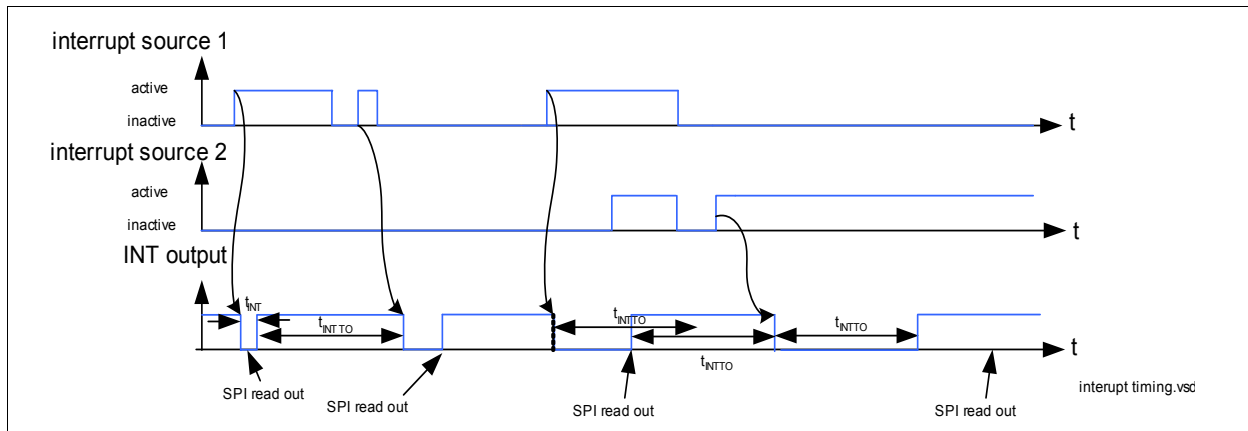

Figure 30 Interrupt Timing
Figure 30 illustrates the interrupt timing. The INT output is set LOW as soon as an interrupt condition occurs. The INT pin is released after a SPI interrupt buffer read out command, that is performed with a Read Only command (111) to register (000). In case consecutive interrupt sources are indicated before the SPI read out, only one INT LOW will be raised but the SPI read out will indicate the interrupt sources. A time-out feature is implemented. The INT pin can be active LOW only for the time t_{INTTO} . Afterwards, the INT pin is released but the INT source is still valid or present in the SPI register. Between two activations of the INT, there is at least a delay of t_{INTTO} . If an interrupt occurs in the meantime, the information is stored and the INT will go LOW after t_{INTO} . The INT pulse width is at minimum t_{INT} .